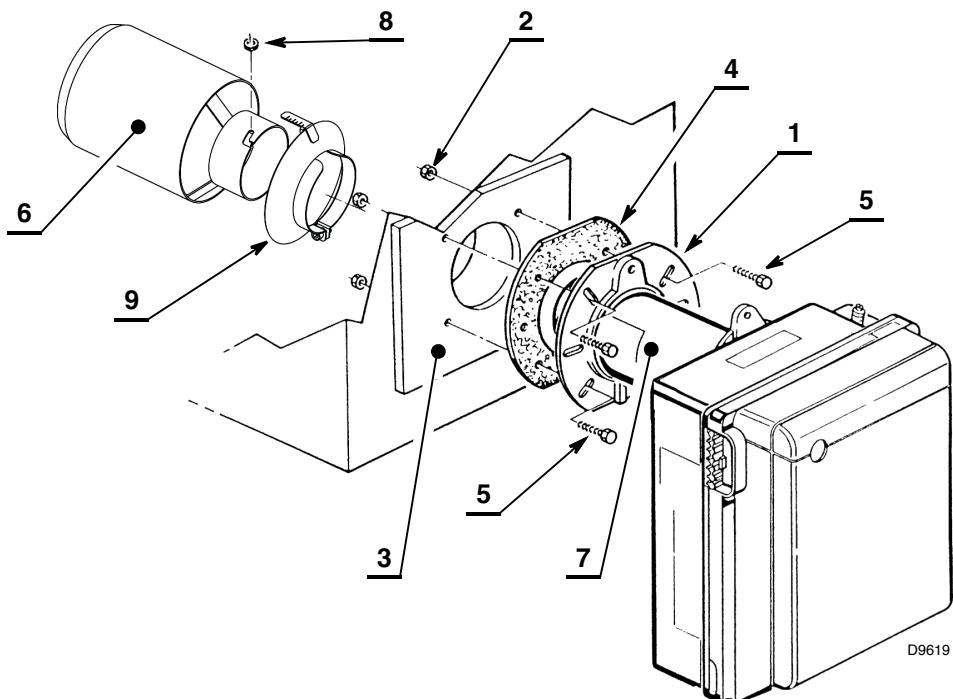

Fig. 7
- fix the flange 1) to the boiler door 3) (Fig. 7), using the screws 5) and (if necessary) the nuts 2), interposing the insulating gasket 4);